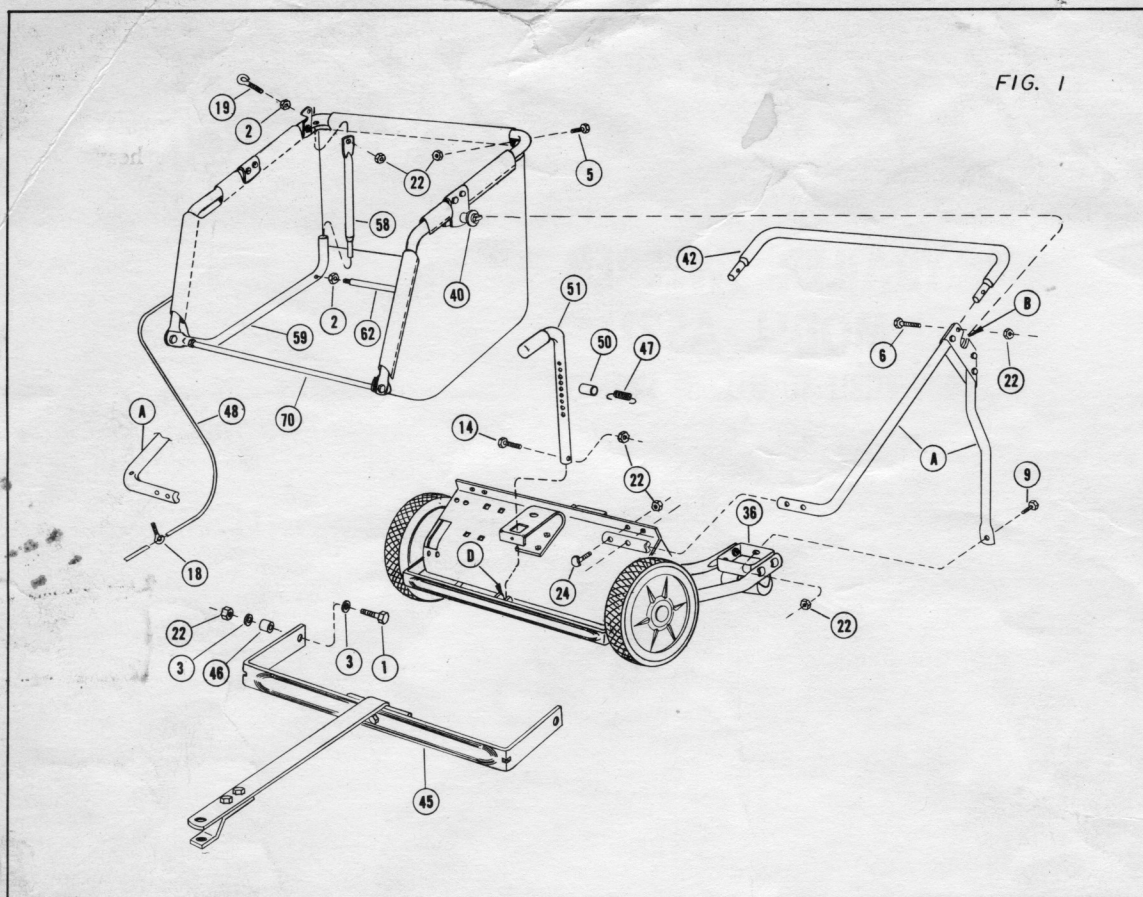
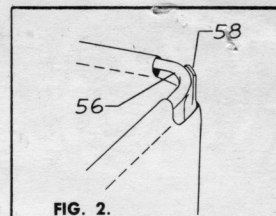
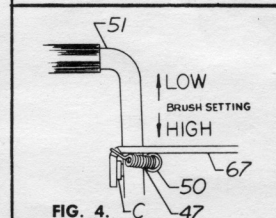

FIG. 1
FIG. 2.
FIG. 4.
**1. BRUSH ADJUSTMENT:** Your new trailer-sweeper is equipped with a handy, "from the tractor seat," brush adjustment. To raise, push adjustment tube back and down until desired sweeping height is attained. To lower, push adjustment tube back and pull up to desired sweeping height. See Fig. 4. For best results, brush should merely flick tops of grass blades. Brushes should be raised when transporting to and from sweep area.
4. Install Pivot Support Assemblies (A) on Chassis using Bolts (24) and Nuts (22). Fasten Vertical Tube INSIDE Caster Plate (36) using Bolt (9) and Nut (22). See Figs. 1 and 3.
5. Install Pivot Brace Tube (42) in ends of Pivot Supports and secure with Bolt (6) and Nut (22). See Fig. 1.
6. To assemble hamper, insert Tie Rod (62) (found packed with hitch) in holes of Bottom Hamper Tubes (59). See Fig. 1. Do not tighten until Step 11.
7. Insert reduced ends of Support Tubes (58) in bottom Hamper Tubes (59). Make certain top ends of tubes (58) are outside Tube (56). See Fig. 2. Fasten top of left tube with Bolt (5) and Nut (22); use Eye Bolt (19) and Nuts (2, 22) at top of tube (58) on right side. See Fig. 1.
8. Hang Hamper (70) inside Pivot Frame by placing under Brace Tube (42) and sliding Pivot Pins (40) in slots (B). See Fig. 1.
9. Feed Dump Rope (48) through Eye Bolt (18) on right side Pivot Support Tube (A). See Fig. 1.
11. Tighten All Hamper Bolts: (A) Support Tube Connection, (B) Side and Bottom Hamper Tubes Connection, (C) Pivot Bracket Bolts, (D) Front Tie Rod Nuts, (E) Rear Tie Rod. (Tighten until Hamper is "taut," DO NOT OVER STRETCH.)
12. To install Adjustment Tube (51), push Spring (47) and Retainer Tube (50) to rear and force Adjustment Tube between Tube (50) and Lock Pin (C). See Fig. 4. Slide Tube down between Lugs (D) on Bumper and secure with Bolt (14) and Nut (22). See Fig. 1.